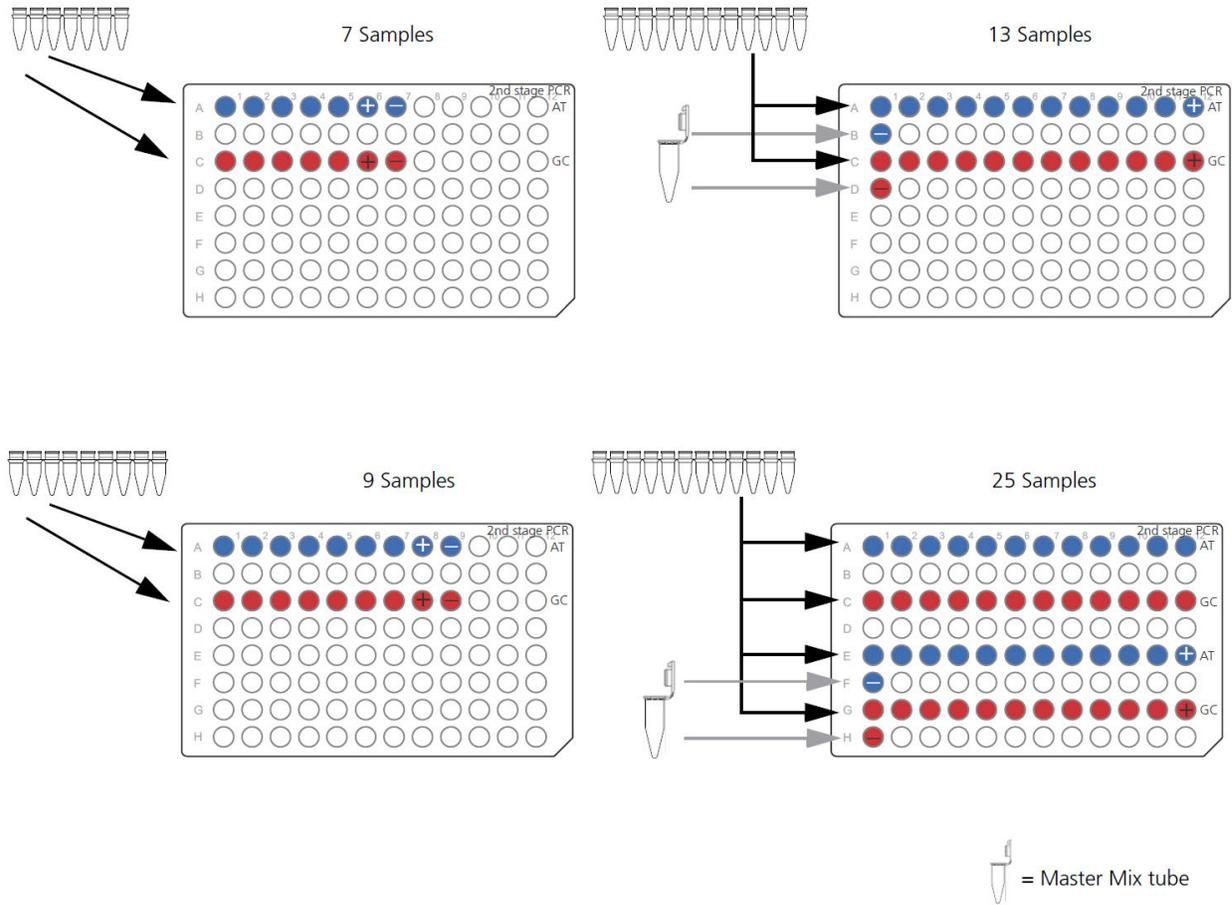

Figure 18 Add the 2nd PCR Master Mix to the empty 2nd PCR Plate.
Use a multichannel P200 pipette to add 25.0 μL of the 2nd PCR Master Mix to each empty sample well of the **2nd PCR Plate**. (Figure 18.)
**Note:** For the 13- or 25-sample protocol, use a single channel pipette to add 25.0 μL of the 2nd PCR Master Mix from the “PCR 2” microcentrifuge tube to the Negative Control wells. (Figure 18.)